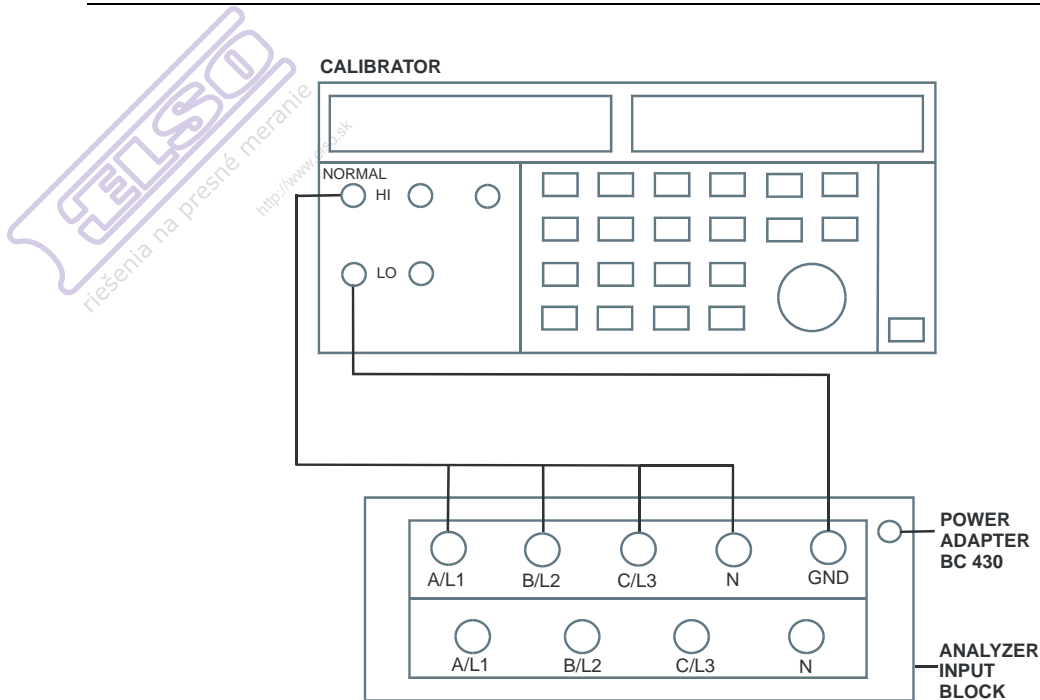

Figure 4-4. Voltage Gain Adjustment
2. Connect the Analyzer to the Calibrator as shown in Figure 4-4: disconnect the current inputs!